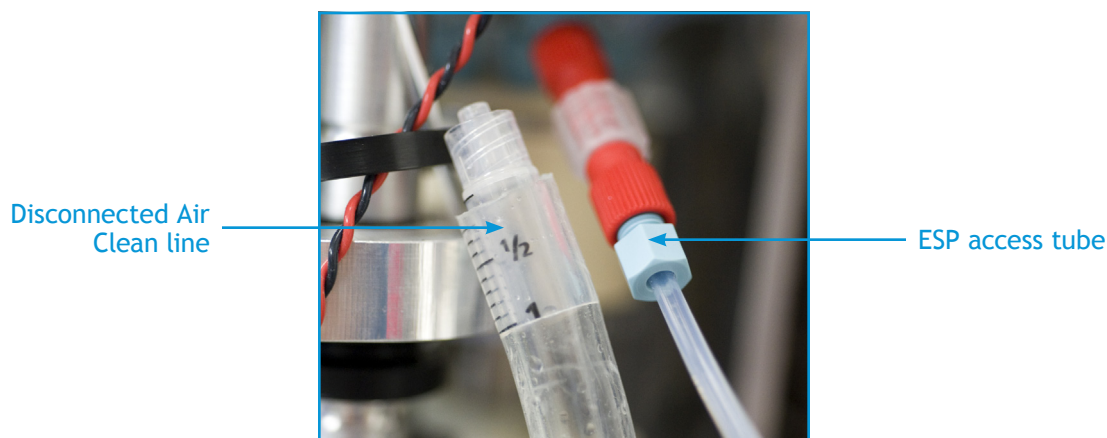

Figure 4-5: ESP access tube connected to Air Clean line
7. Connect an ESP access tube to the portion of the Air Clean line leading to the PSV. See Figure 4-5.